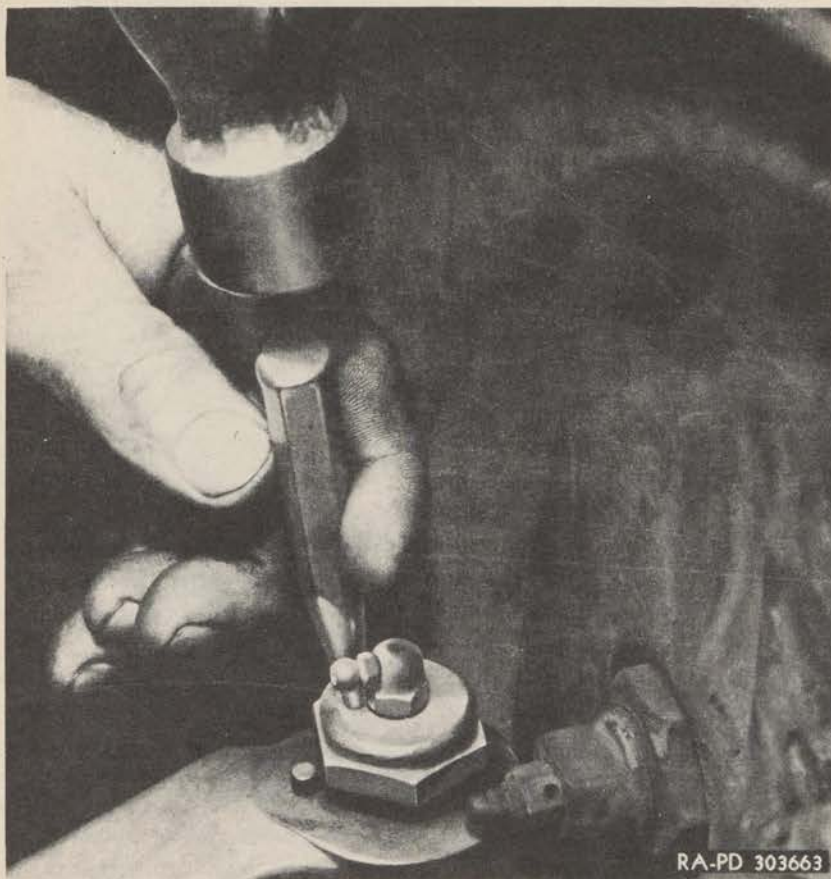

Figure 110—Driving in Tie Rod End Pin
e. **Install Tie Rod End Pins.** Drive the tie rod end pins into place, using a drift punch, and tapping on the flat surface on top of the pins. Be sure that the flat surfaces on the heads of the pins face the dowel pins in the top of the tie rod yokes to keep the pins from turning. Install the nut and lock washer on the bottom of each end pin (fig. 110).